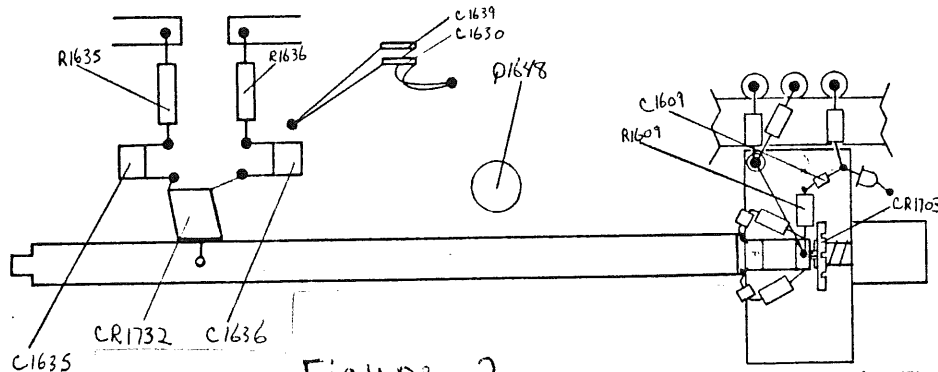

Figure 2
- A) Dress C1639 and C1630 as in fig. 2. Make sure that they don't short to anything.
- C) Dress the backend of stripline as in fig. 2, except, that the lead on R1609 that is soldered to C1609 should be as short as possible and the other lead on R1609 can be as long as needed.
- D) Put two screws on stripline shield. One near the 20 ma TD (CR1703) (see fig. 2) and one near the sampling diode CR1732.
- E) Bend the extra lead on Q1648 (see fig. 2) so that it hangs over the top edge of the stripline shield.